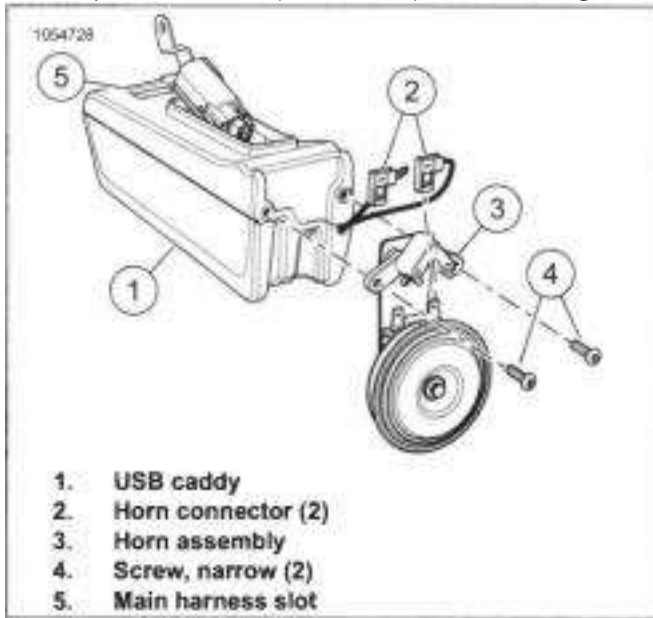

Figure 7-156. USB Caddy Horn Assembly
- a. See Figure 7-156. Verify main harness tab is installed into main harness slot (5) on USB caddy.